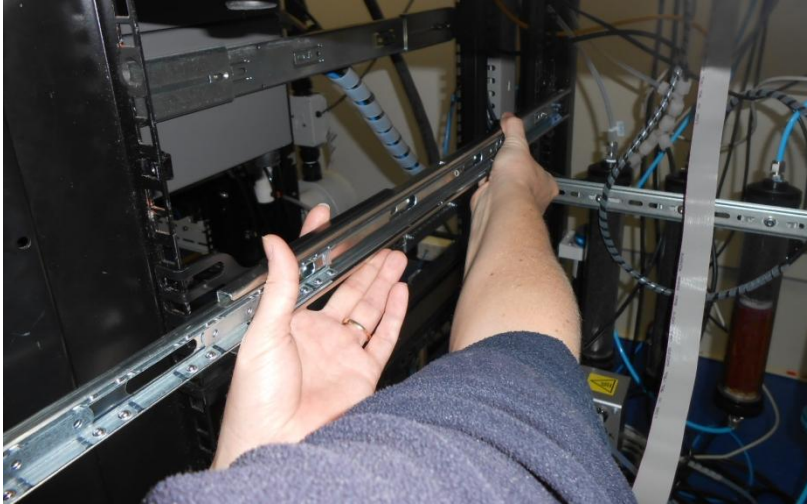

Figure 185 – Test Fit the Rack Slide Assembly into Your Rack
6. Refer to Figure 185. Test fit the rack slide into your rack to determine the spacing of the rack mount adaptors.